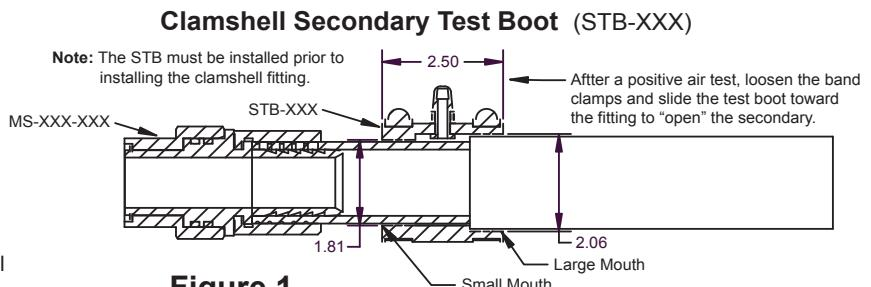

Figure 1
3. Square off and de-burr the end of the pipe. If you are using SC (Secondary Contained) piping, cut back the scuff guard layer to the sump wall (approximately 9" in dispenser sumps) and cut back the SC layer 4½". For further cutback details, see the process's complete description in the *DWC-XXX Double Wall Cutter (SC) Installation Instructions* or in APT's *Installation Guide Overview*.
4. Push the pipe through the appropriate entry boot in the sump wall and slide the Secondary Test Boot over the pipe. Clamshell STBs must be oriented so the larger mouth is facing the pipe secondary (See Figure 1).